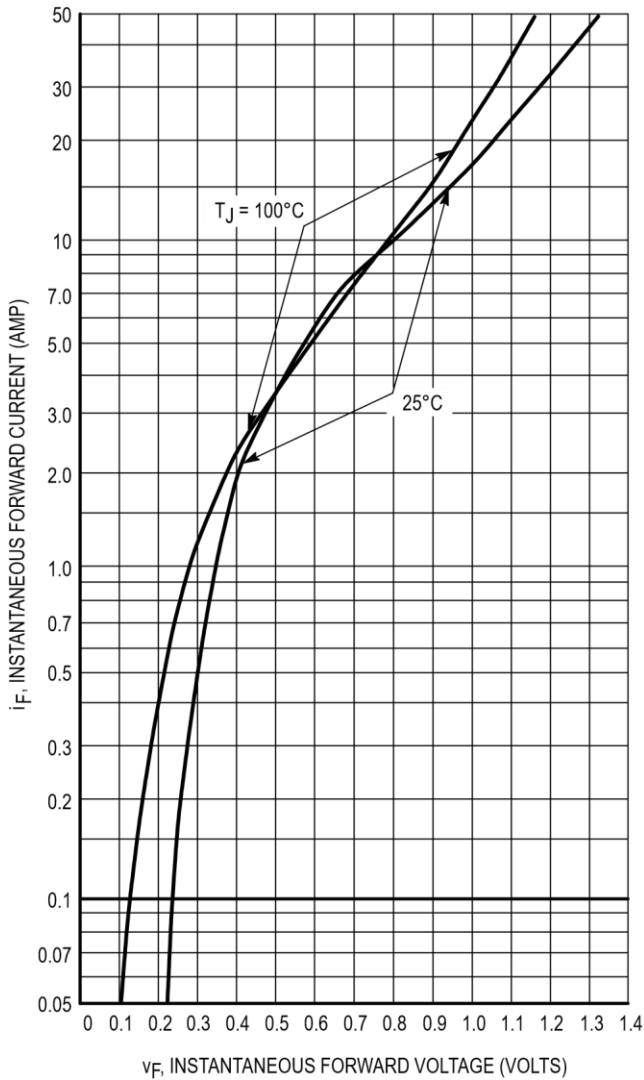

Figure 7. Typical Forward Voltage
1N5822. Variations will be similar for the MBR-prefix devices, using PF(AV) from Figure 7.